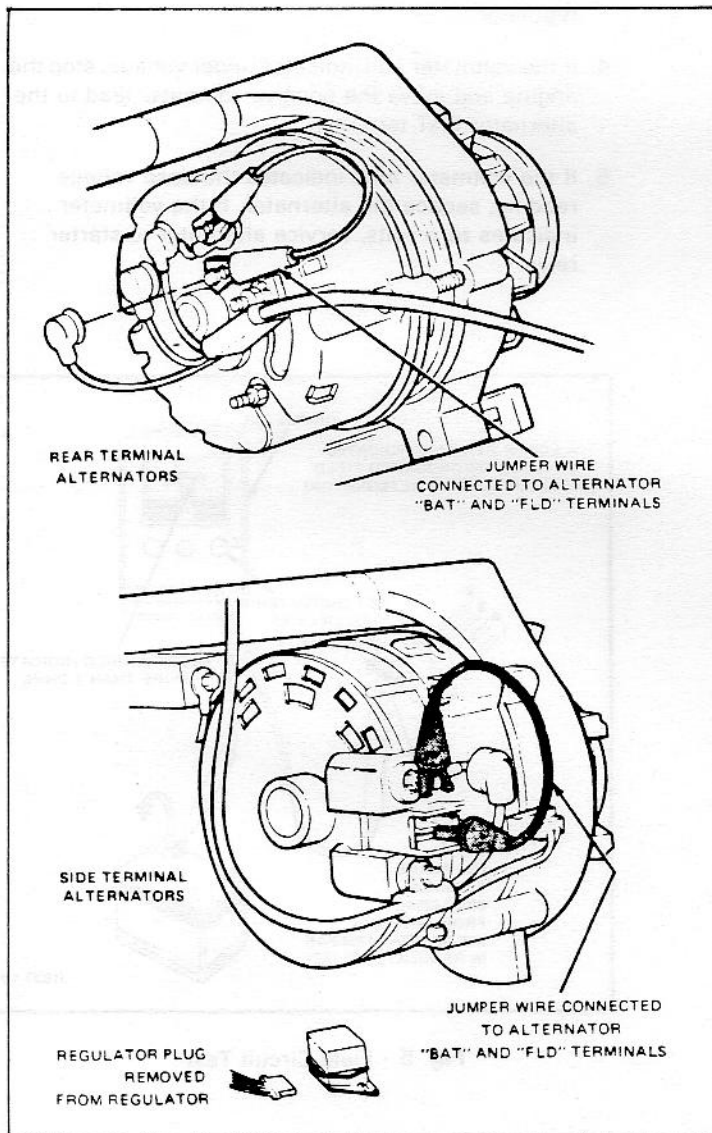

Fig. 7 - Jumper Wire Connections
3. If the Voltmeter still indicates under voltage, remove the jumper wire from the regulator plug and leave the plug disconnected from the regulator. Connect a jumper wire to the FLD and BAT terminals on the alternator (Fig. 7) and repeat the LOAD TEST. If the voltmeter now indicates more than 1/2 volt above the base voltage, perform S and I Circuit Test and service the wiring harness from the alternator to the regulator.